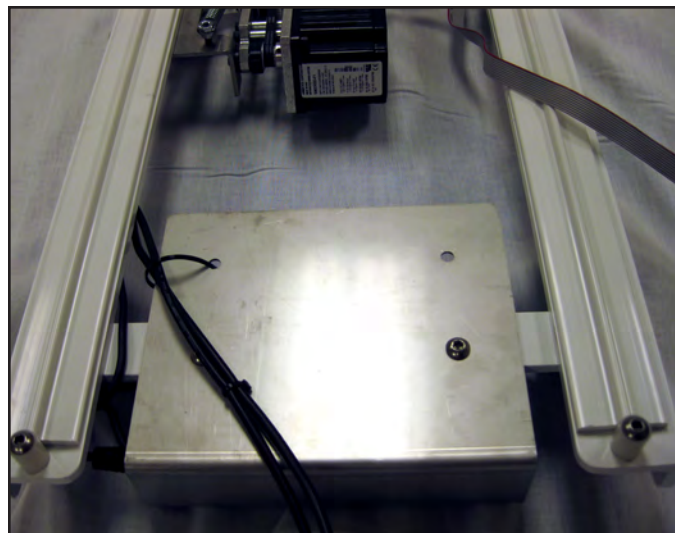

Figure 3.47
4. The black cables that extend out the back of the HQ Pro-Stitcher carriage (**Figure 3.47**) provide power and communications to the motors and are already attached to the carriage. Lay that cable so it extends out the back and the stitch regulator cable so it extends out the side as shown in **Figure 3.47**.